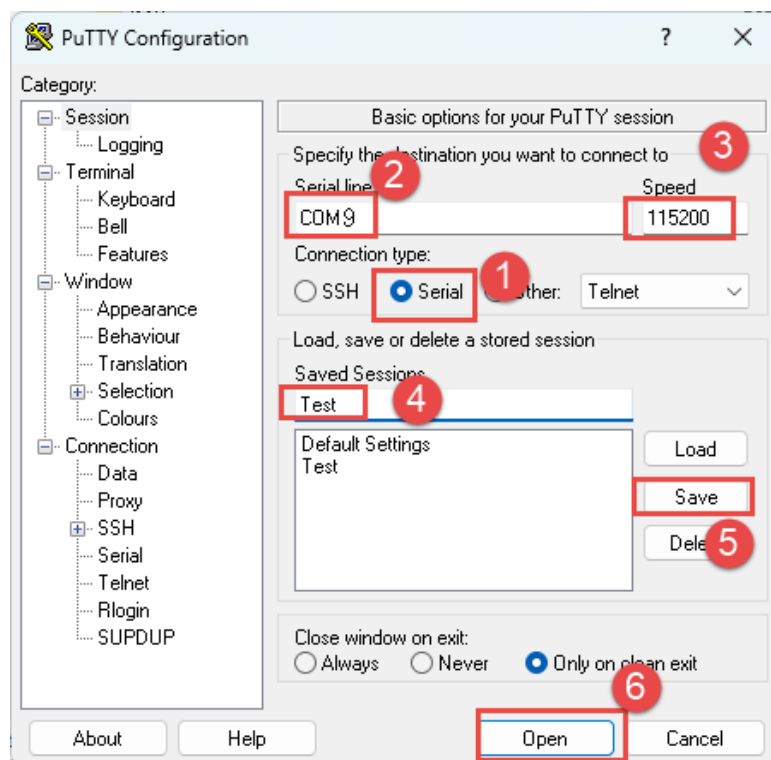

Figure 1-10 Putty Window
3. Configure the window like the flowing picture and click "save" button to save the setting and click "Open" to open the terminal window (see **Figure 1-10**).